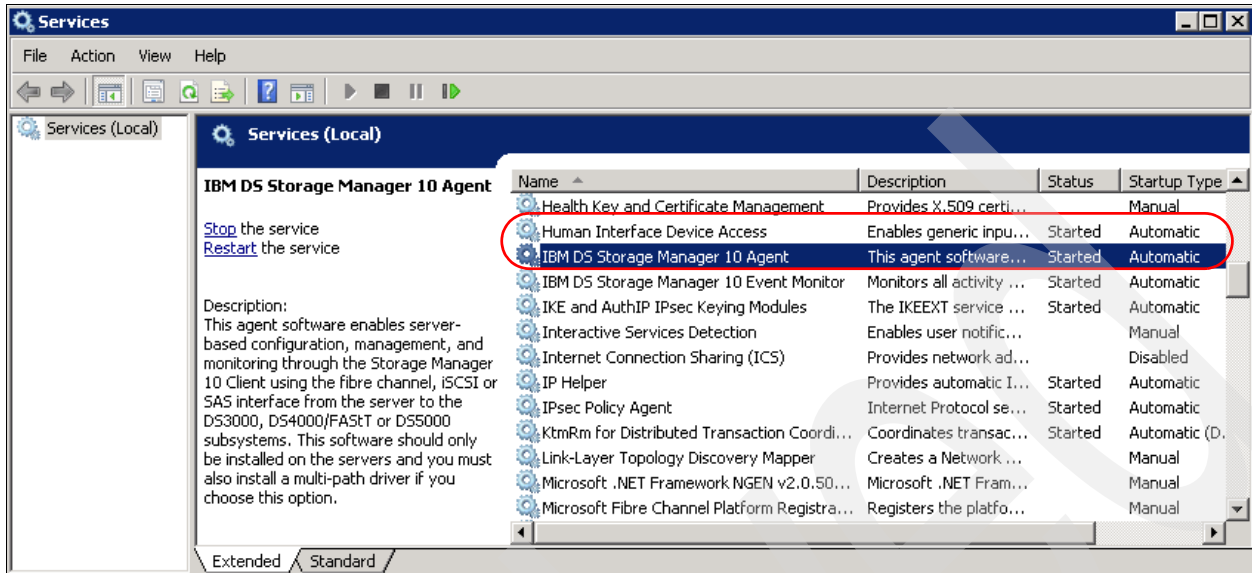

Figure 4-22 Verifying the SMagent installation
2. Scroll through the list of services until you find IBM DS Storage Manager 10 Agent, as shown in Figure 4-22.